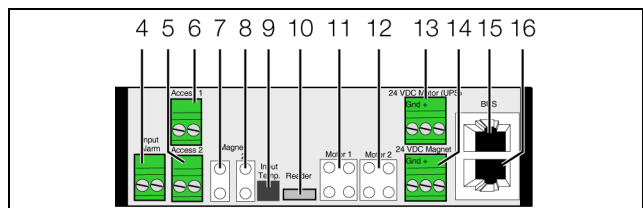

Fig. 9: Rear of the door control module
- Depending on the door type, connect the relevant magnet door kit to the front door (fig. 9, item 7) and the rear door (fig. 9, item 8).
- Connect a power supply unit to the power supply connection of the magnet door kit (7030.060) (fig. 9, item 14). Use the same voltage supply for this power supply unit as for the components you wish to protect (e.g. server).
- Connect the external temperature sensor to the door control module connection at the rear (fig. 9, item 9) and route the measuring sensor to the required measuring point.
- Connect the door kit extension to the front door (fig. 9, item 11) and the rear door (fig. 9, item 12).
- Connect a further power supply unit to the power supply connection of the door kit extension (7030.060) (fig. 9, item 14).
- If applicable, connect e.g. the signal output of a fire alarm system or building control system to the alarm input (fig. 9, item 4) .
- If applicable, connect a door switch or door comfort handle with opener function for manual opening of the front door (fig. 9, item 6) and rear door (fig. 9, item 5).
- If applicable, as an alternative to a door switch or door comfort handle with opener function for access control, connect a suitable CMC III reader unit (coded lock or transponder reader) for manual opening of the doors (fig. 9, item 10).
- Using a CAN bus connection cable, connect the door control module to a CAN bus interface of the CMC III Processing Unit or the neighbouring component in the CAN bus (fig. 9, item 15).